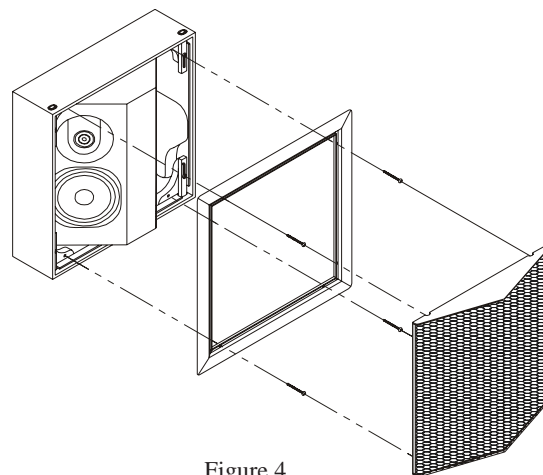

Figure 4
1. Determine the location where you wish the HT-3 Loudspeakers to be installed in the wall. Refer to figure 4.